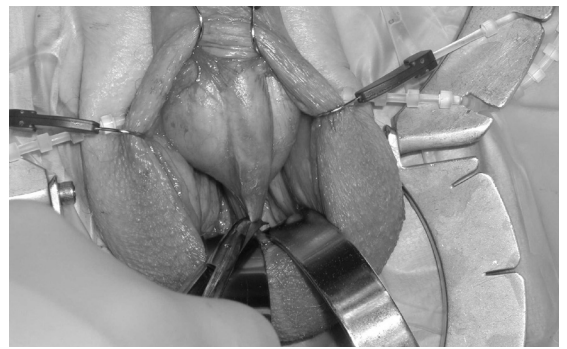

Figure 4-17.
6. The scrotal septum is then sharply dissected off the bulbar urethra. (**Figure 4-17**)